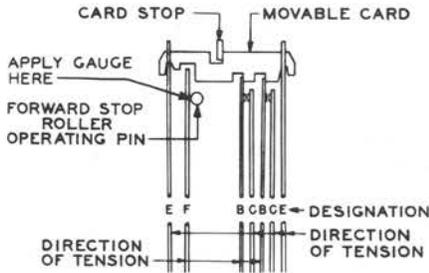

Fig. 38—Spring Tension and Gauging—Latch Assembly
**2.33 Pressure of Forward Stop Roller:** With the perforator in the home position (1.05), the pressure of the forward stop roller against the forward stop cam [Fig. 33, (A)], measured at the forward stop roller pin as shown in Fig. 38, shall be
- (1) Hold the gauge in a horizontal position, and apply the push finger to the forward stop roller operating pin as shown in Fig. 38.
- (2) Observe the pressure just as the roller starts to move away from the cam.
- (a) With the moving card play [Fig. 37, (A)] taken up in a upward direction, the bifurcated end of each moving spring (designated B in Fig. 38) and the end of the card operating spring (designated F in Fig. 38) shall be above the bottom surface of the movable card by
- (a) **Balancing Springs:** (Spring Designated E)—With the perforator in the home position (1.05) and the LCH armature unoperated, the combined tension of the balancing springs shall be such that the movable card (Fig. 38) is held against right-hand side of the card stop with a pressure of